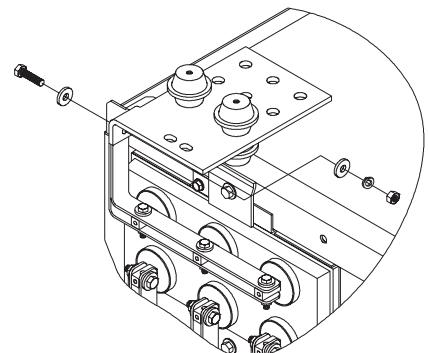

FIGURE 18a
4. Install terminal bar as described in Section 13.1 and as shown in Figure 18a.